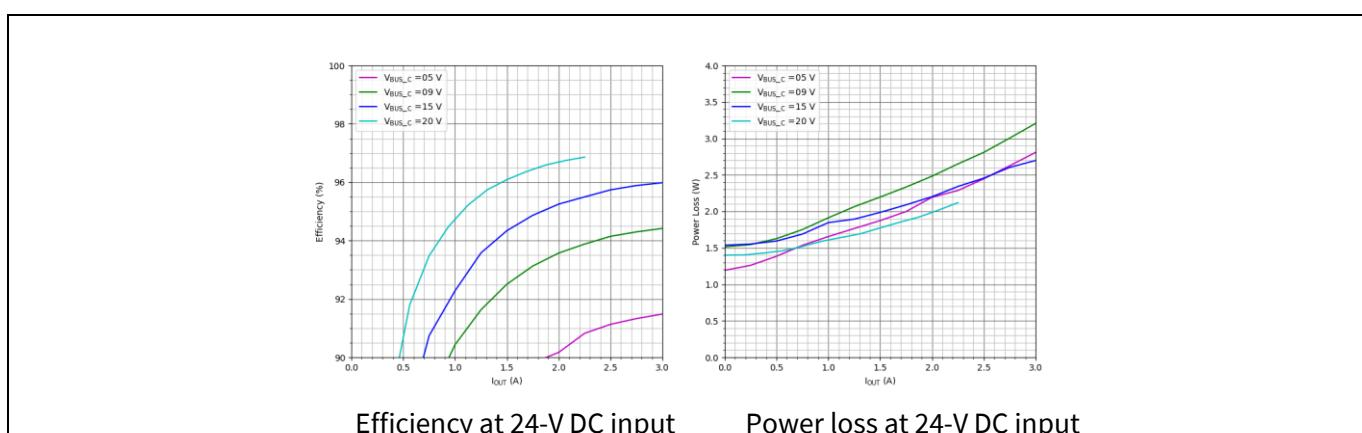

Figure 9 Efficiency and power losses at 24-V DC input
- Efficiency, losses at 24-V DC input, Port #0 and Port #1 V_{BUS_C} 5 V, 09 V, 15 V, 20 V are shown in Figure 9.